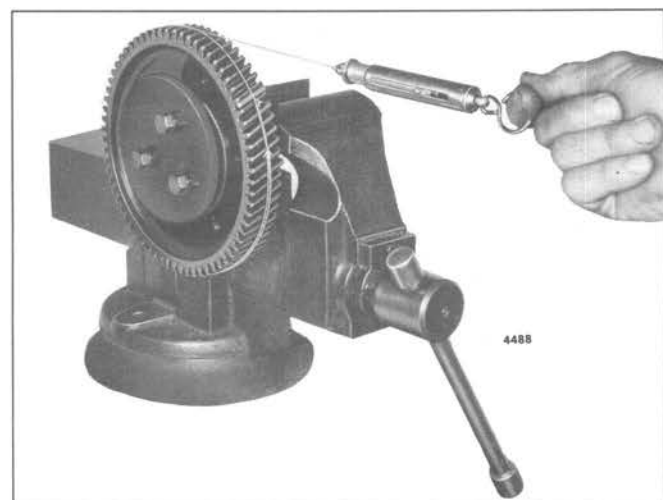

Fig. 8 - Checking Idler Gear Bearing Pre-Load
4. Tie one end of a piece of lintless 1/8" cord around a 1/8" round piece of wood (or soft metal stock). Place the wood between two of the gear teeth and wrap the cord around the periphery of the gear several times. Attach the other end of the cord to a spring scale J 8129 (Fig. 8). Maintain a straight steady pull on the cord and scale, 90° to the axis of the hub, and note the pull, in pounds and ounces, required to start the gear rotating. Make several checks to obtain an average reading. If the pull is within 1/2 lb. minimum to 4 lbs. maximum, and does not fluctuate more than 2 lbs 11 oz., the idler gear and bearing assembly is satisfactory for use.
3. Clamp the idler gear assembly and fixture in a vise (Fig. 8).